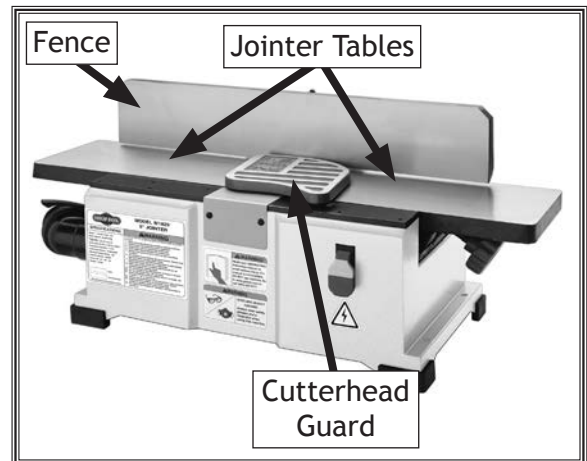

Figure 14. Fence positioned over the jointer tables.
- Slide the fence forward until it contacts the cutterhead guard and the cutterhead guard completely covers the cutterhead, as shown in Figure 14.